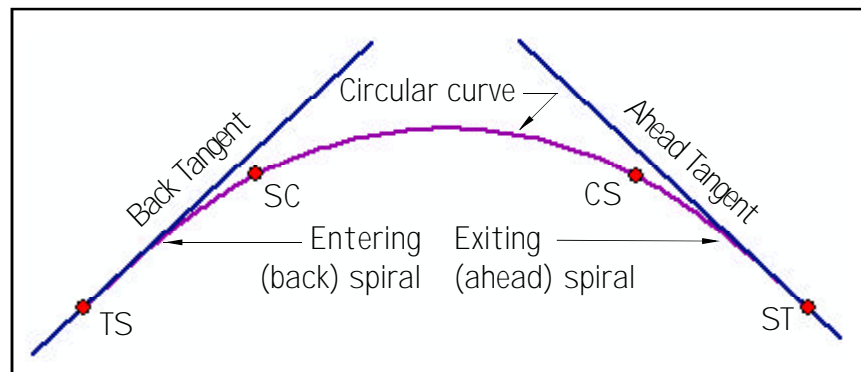
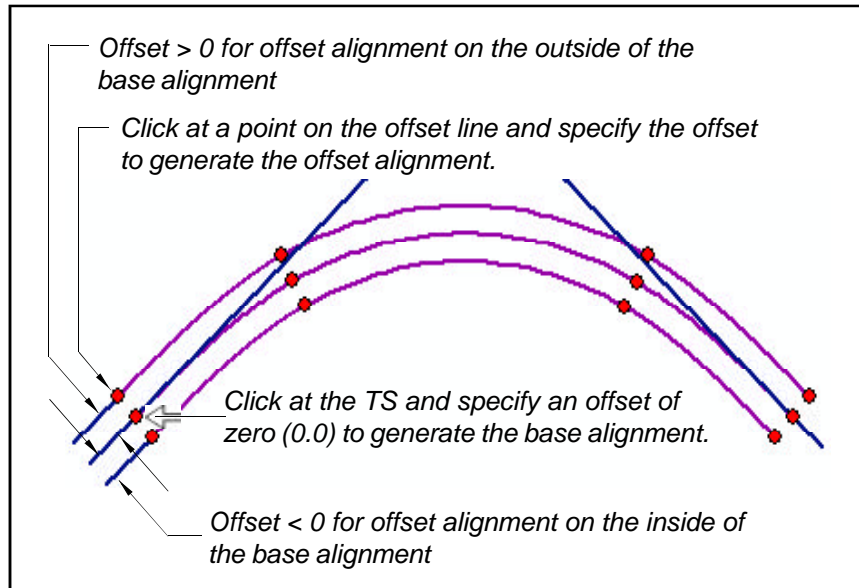

Figure 3
Figure 5
With the  [Alignment with curve and spiral] tool command, the user is able to select in the ArcMap display two single lines to denote the back and forward (ahead) tangent line, and specify in a multi-input dialog box the radius of a circular curve and the length of an entering and/or an exiting spiral to be introduced between the two tangents (see Figure 3). It is noted that the two tangent lines need not intersect. To use this tool, the user should:
- Yes option to create point features at each of the four control points as shown in Figure 3, or the
Having clicked at the *OK* button, the alignment is drawn as indicated in Figure 3. The command is now ready to be repeated from Step 2.
With the  [Alignment with Directions and Offset] tool the user is able to introduce an alignment comprised of a circular curve and spirals. Alternatively to creating a base alignment as shown in Figure 3, the user may specify an offset value, in which case the program generates an alignment offset from a base alignment.
For the above two cases, see Figure 5.
points as shown in Figure 3, or the
Having clicked at the *OK* button, the alignment is drawn as indicated in Figure 3, if a value of zero is specified as an offset, or as in Figure 5 if a nonzero offset is specified. The command is now ready to be repeated from Step 2.
- Yes option to create point features at each of the control points as shown in Figure 3, or the